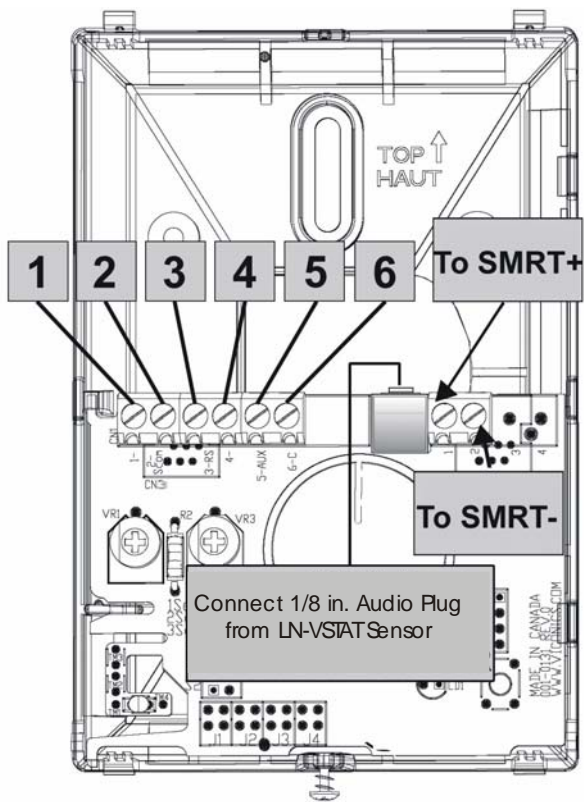

Figure 8: LN Sensor Wiring
3. Remove the LN Sensor faceplate and insert the 1/8 in. audio plug into the communication jack. Ensure the two output terminals on the right side of the LN-Sensor are wired to the SMRT+ and SMRT- terminals of the LN-Sensor (Figure 8).